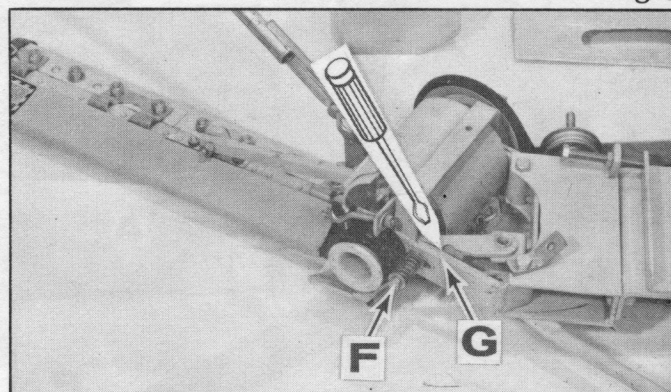

Fig. 6
To disengage safety break-back manually, insert screw driver at (G) and pry break-back pivot open-at same time push sickle bar back to release catch. Fig. 6.